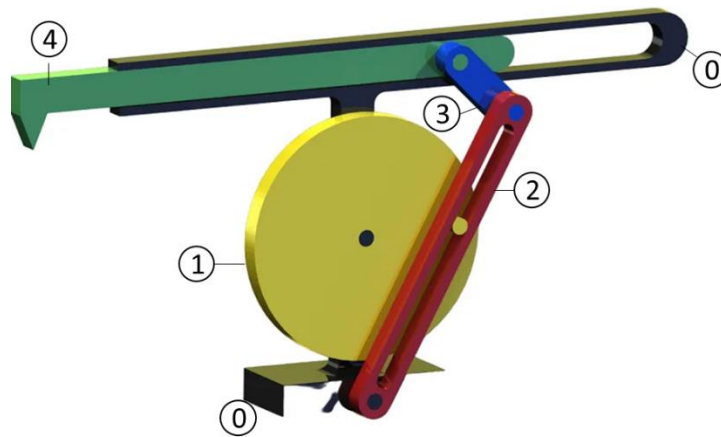
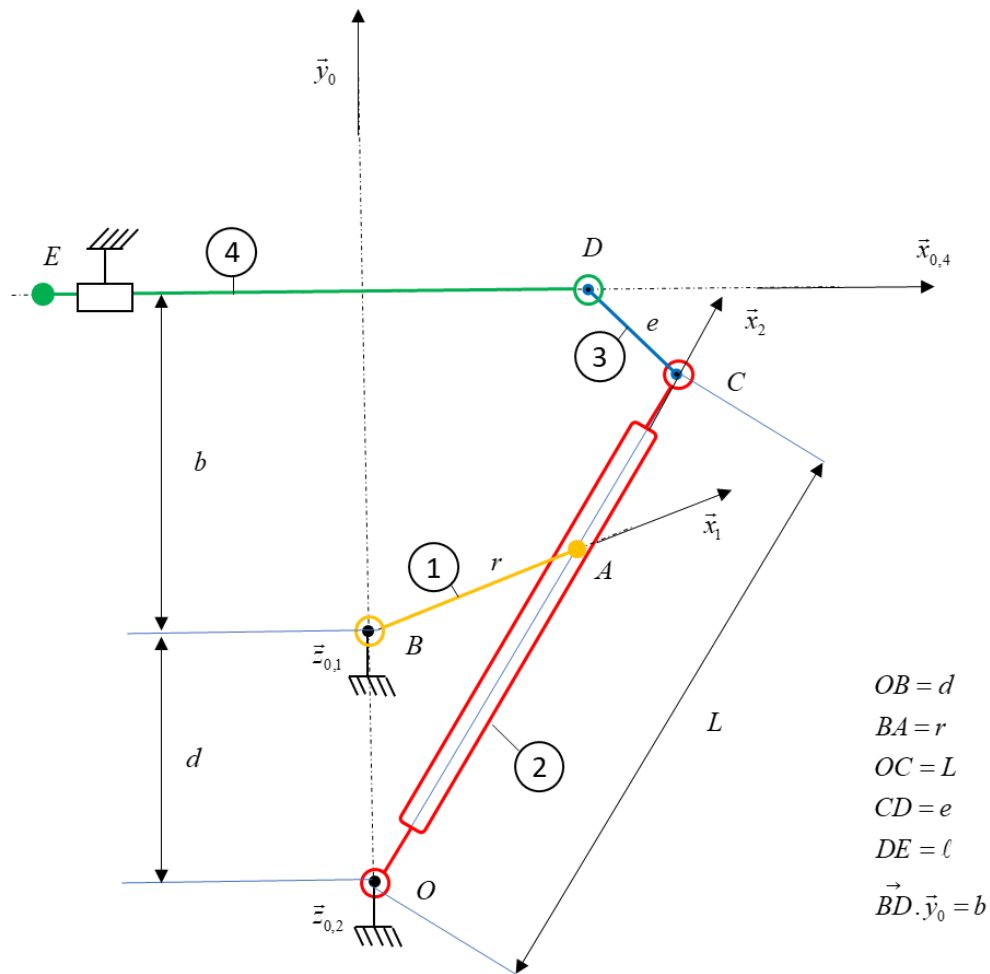

Figure 1 – CAD model of a quick-return mechanism
Figure 4. Kinematic model of the quick-return mechanism
The system under consideration is shown in Figure 1 and its kinematical model is represented in **Figure 4**.
The geometrical data are given in Figure 4. The input motion is that of the crankshaft and the output motion is the slider motion with respect to the ground.
1. Represent the graph of links and the change of basis diagrams in the box under **Figure 4**.